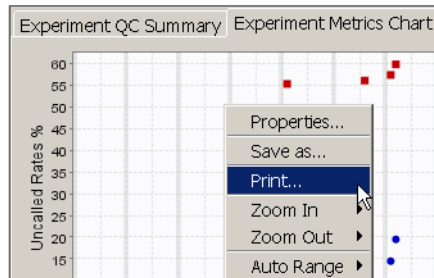

Figure 4.33 Printing Charts
1. Right-click and hold in the chart until a menu appears (Figure 4.33).